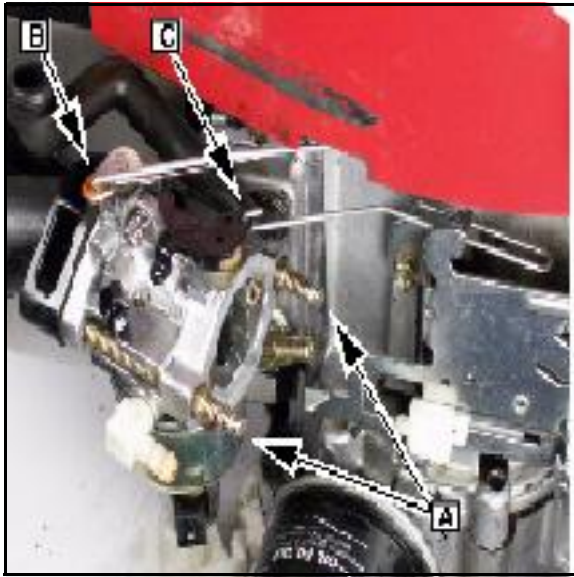

Fig. 23
8. Remove the two studs ([A] Fig. 23) that hold the carburetor to the air intake manifold.
9. While removing the carburetor, disconnect the governor link with anti-backlash spring (B) and the choke link (C) Fig. 23).